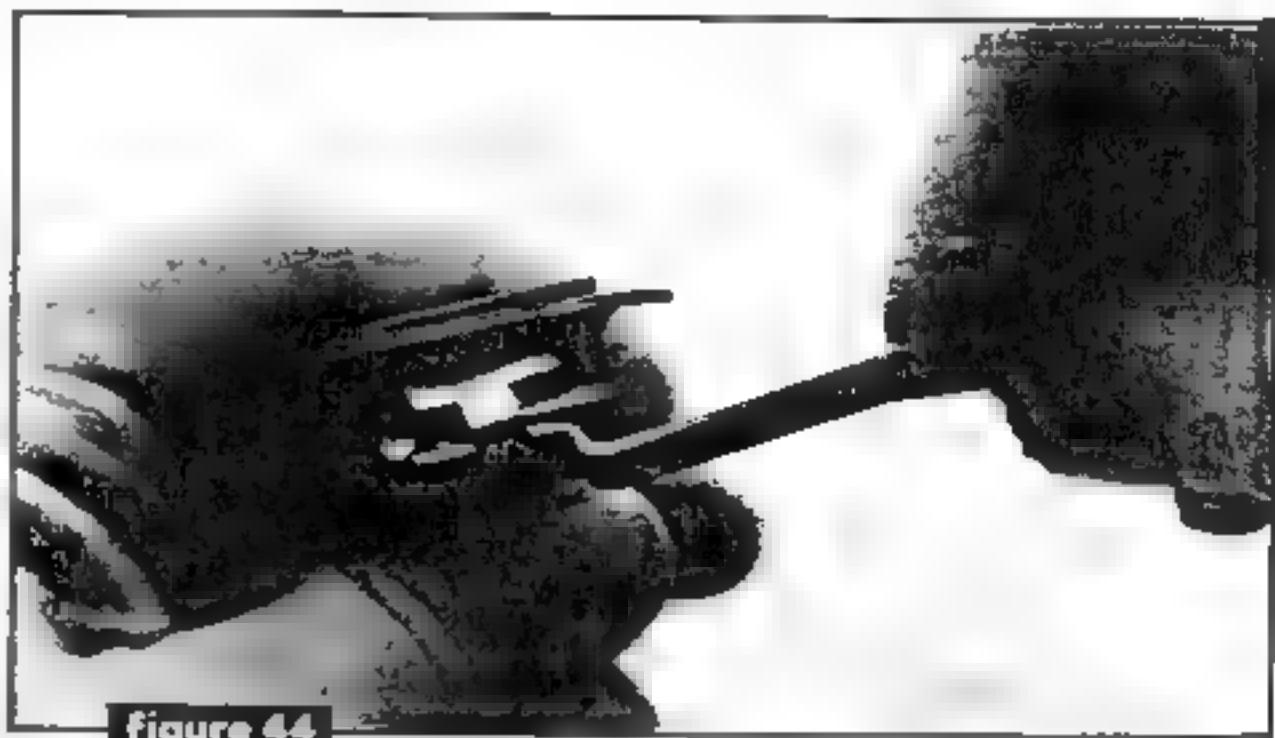

Figure 44
- Hold the trigger assembly as shown (Figure 44);